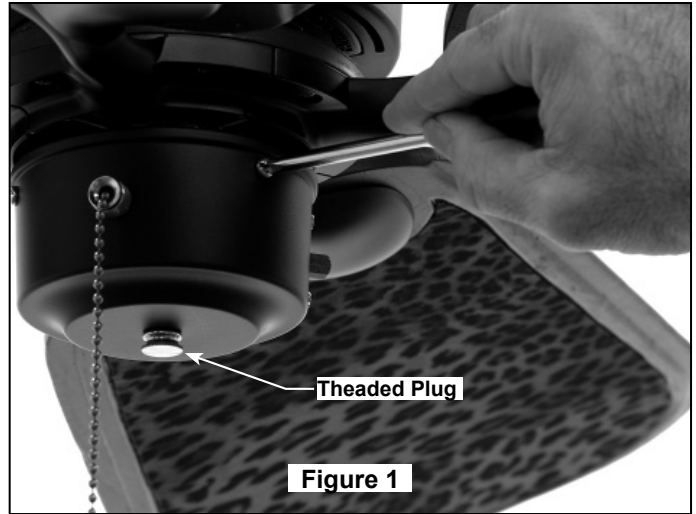

Figure 1
3. With a Philips screwdriver, fasten the blade with three screws and lockwashers provided, do not over tighten. (Figure 1)
1. Remove the switch housing from the fan by unscrewing the three screws and unplugging the connector (Figures 1 & 2).
2. Remove the threaded plug, lockwasher, and nut from the center of this cover by unscrewing it. You may discard or keep them for future use (Figure 1).